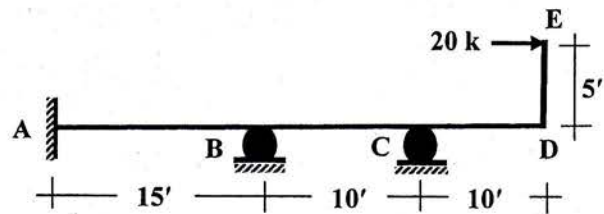

Figure 7
- [7] Use the Flexibility Method to determine the support reactions and draw the BMD of the beam shown in Figure 7. Assume the support C has settled 2 inches. Given, $EI = 30 \times 10^6 \text{ k-in}^2$. (20)